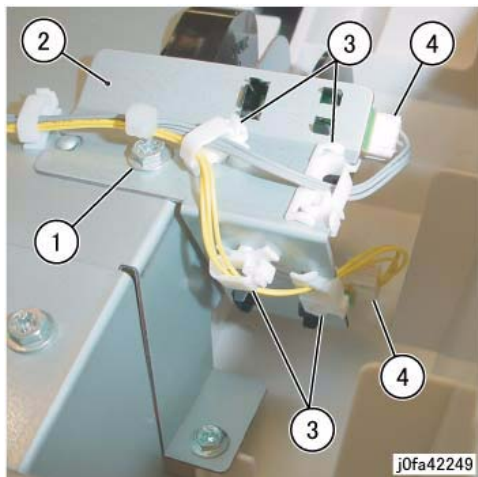

Figure 3 Removing the Stacker Sensor Assembly (j0fa42249)
9. Remove the Stacker Stack Sensor Assembly. (Figure 3)